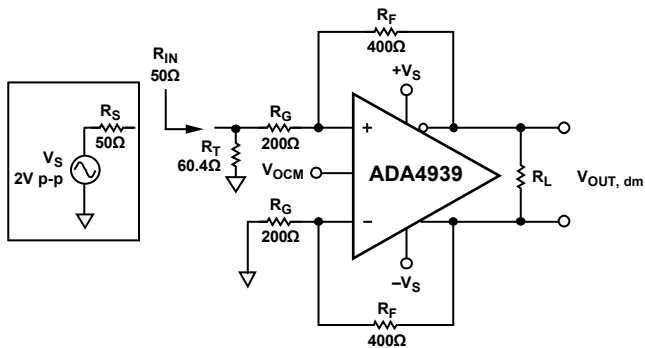

Figure 47. Adding Termination Resistor  $R_T$
- It can be seen from Figure 47 that the effective  $R_G$  in the upper feedback loop is now greater than the  $R_G$  in the lower loop due to the addition of the termination resistors. To compensate for the imbalance of the gain resistors, a correction resistor ( $R_{TS}$ ) is added in series with  $R_G$  in the lower loop.  $R_{TS}$  is equal to the Thevenin equivalent of the source resistance  $R_S$  and the termination resistance  $R_T$  and is equal to  $R_S || R_T$ .